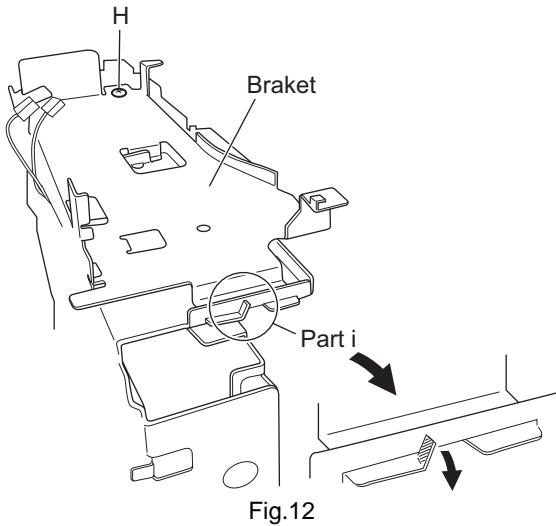

Fig.12
3.2.6 Removing the side (R) assembly (See Figs.12 to 17)